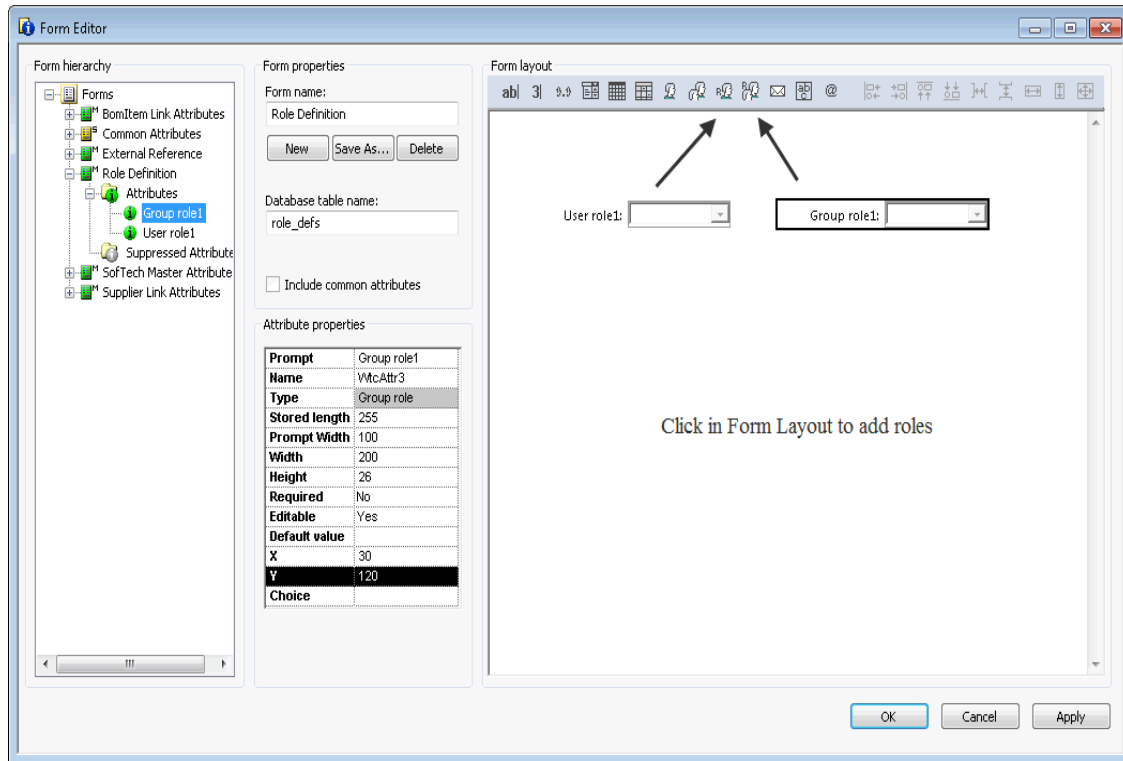

Figure A-2: Adding roles to Form Layout
4. Click the User Role or Group Role button, and add a role to the Form Layout (Figure A-2).